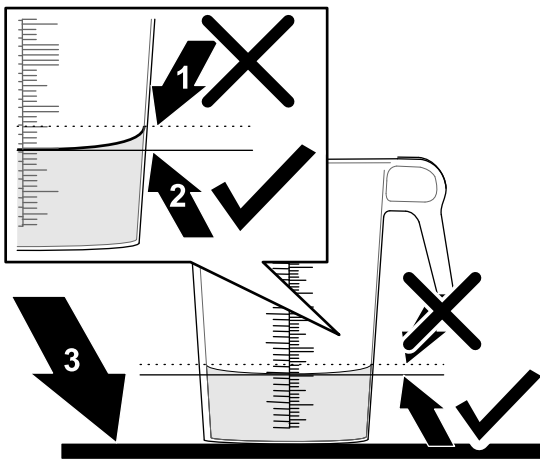

Figure 46
6. Set the graduated container on a level surface and note the fluid volume (Figure 46).